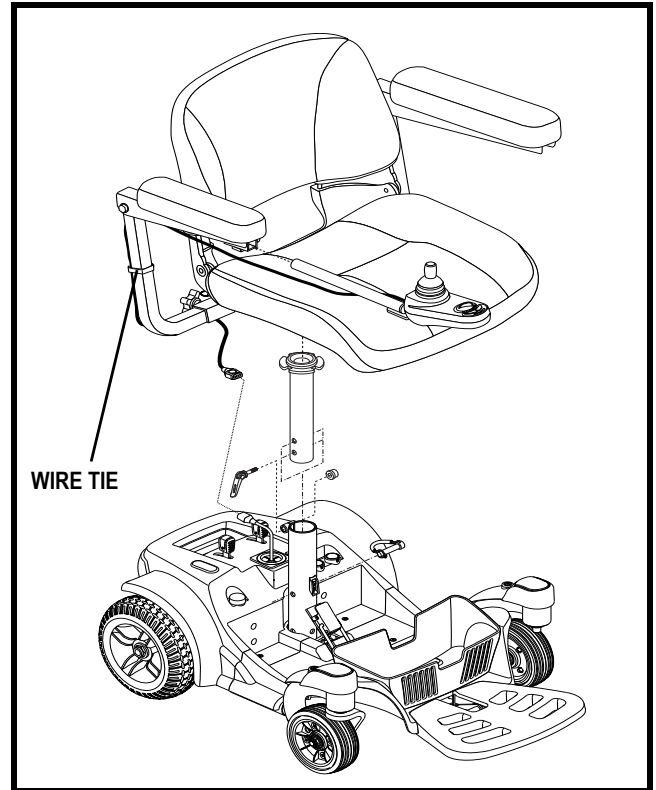

Figure 9. Seat Installation
2. Set the seat onto the seat pedestal. **See figure 9.**
5. Plug the controller harness connector into the power base. **See figure 9.**
6. Secure the controller harness to the armrest with wire ties. **See figure 9.**